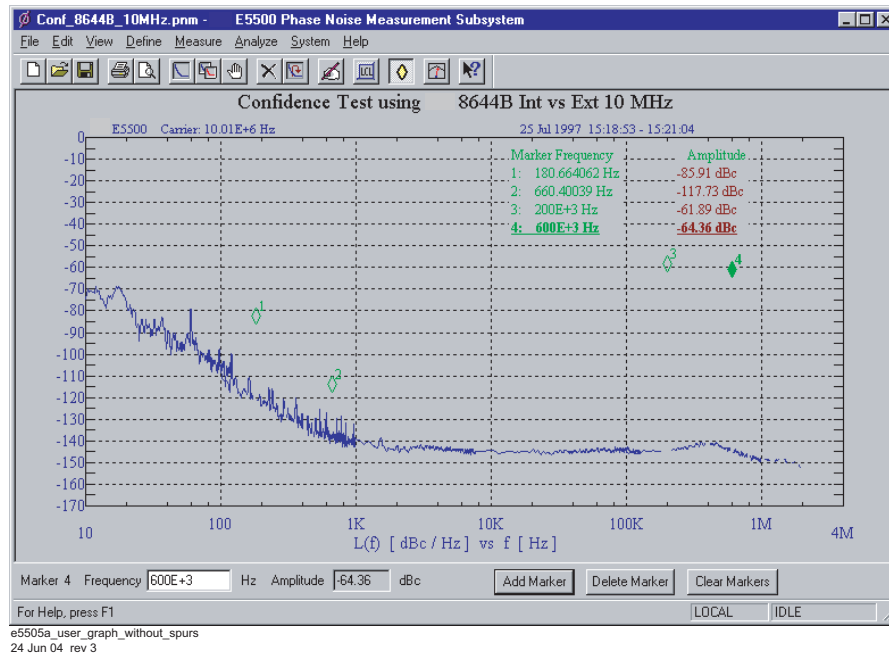

Figure 64 Graph displayed without spurs
- The graph is displayed without spurs. See Figure 64 on page 98.